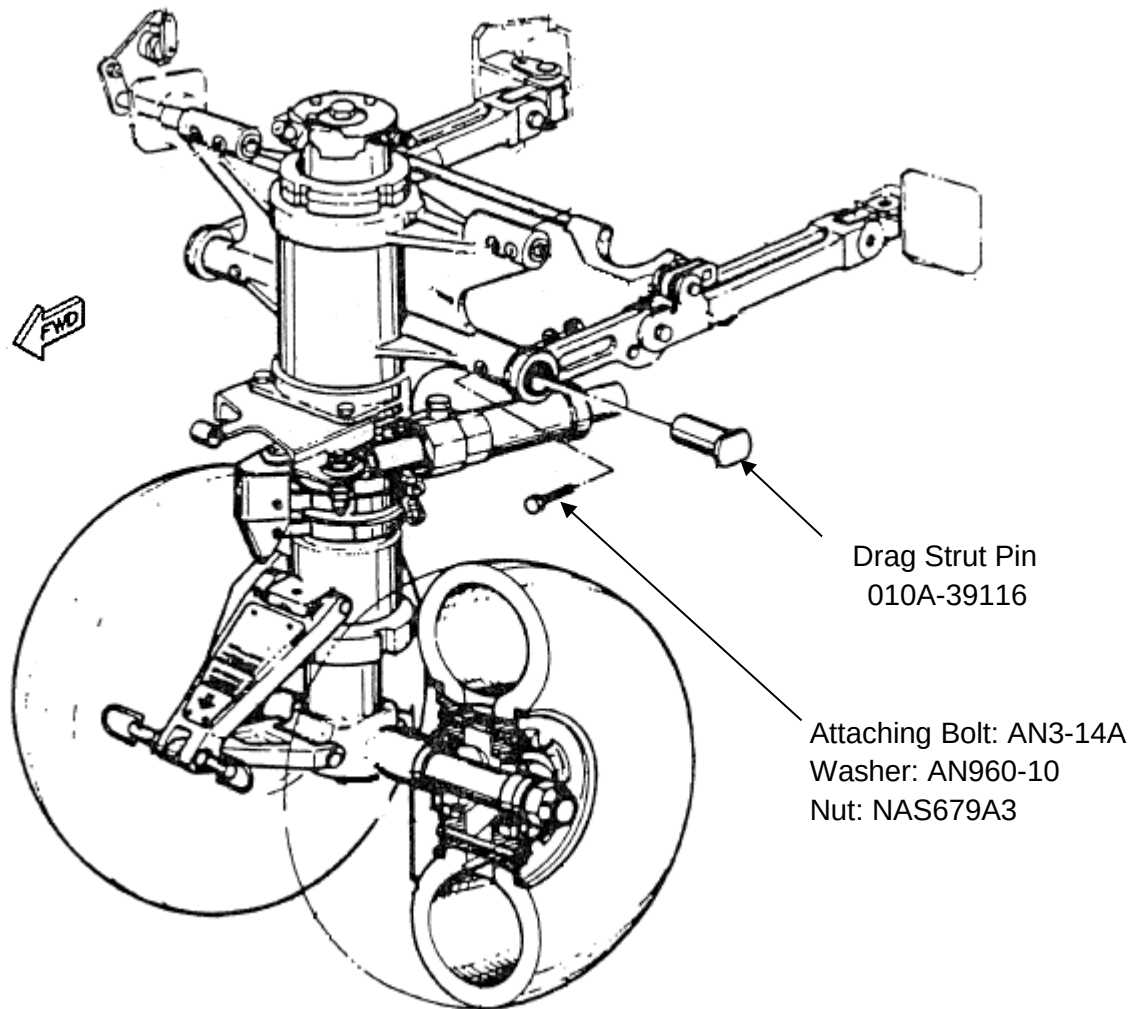

Figure 10: Drag Strut Pins and Attaching Bolts
- (1) Clean LH and RH Drag Strut Pins and visually inspect for wear, crack, deformation or corrosion. (Figure 10)
- (1) Reinstall NLG Assembly using Chapter 1- Preparation sequential procedures in reverse, up to step (6) except step (8) and (9); at step (19) of reinstalling Drag Strut Pins, the following applies (Figure 10):